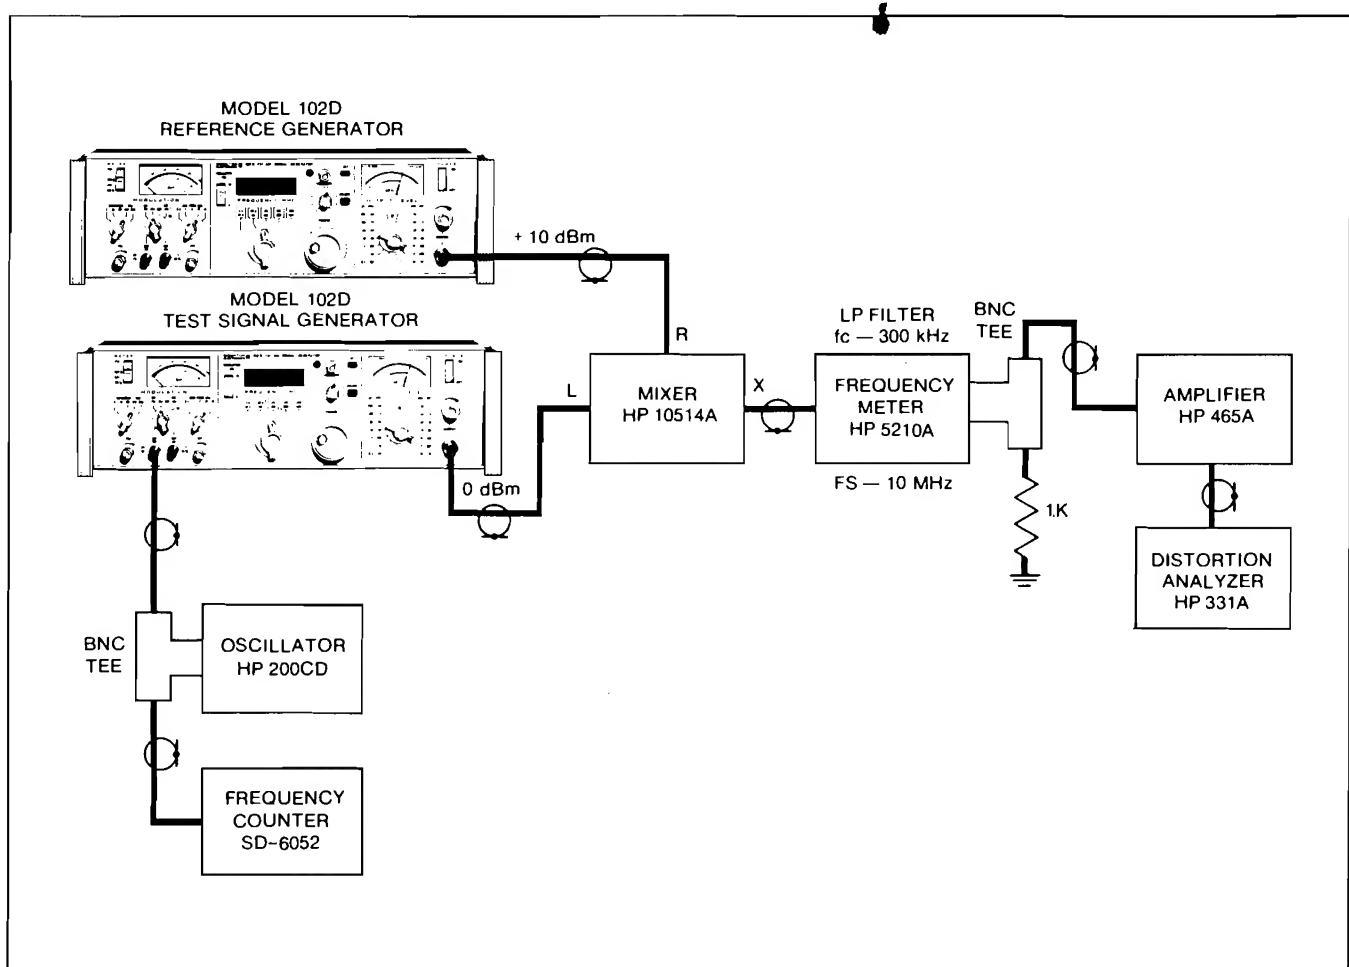

Figure 4-3 FM Deviation Tracking and Calibration, Test Setup
a. Connect the Model 102D and test equipment as shown in Figure 4-3.